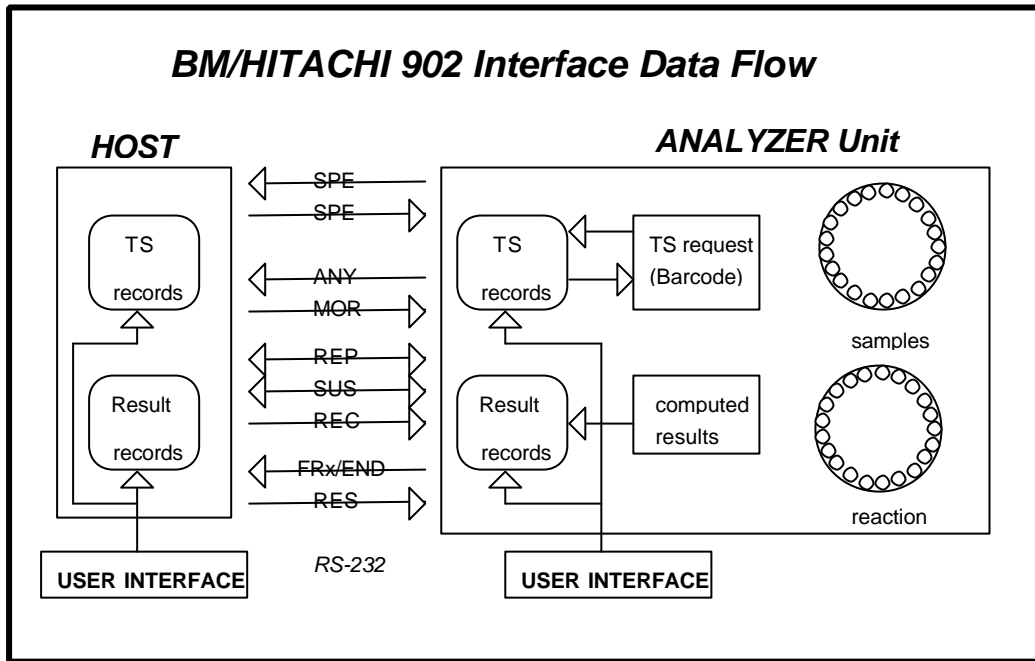

Figure 1: HITACHI 902 Interface data flow
Figure 1 gives an general idea of the 902 interface data flow between the analyzer, the analyzer unit (AU) and the host system. More detailed description will be found in this document.